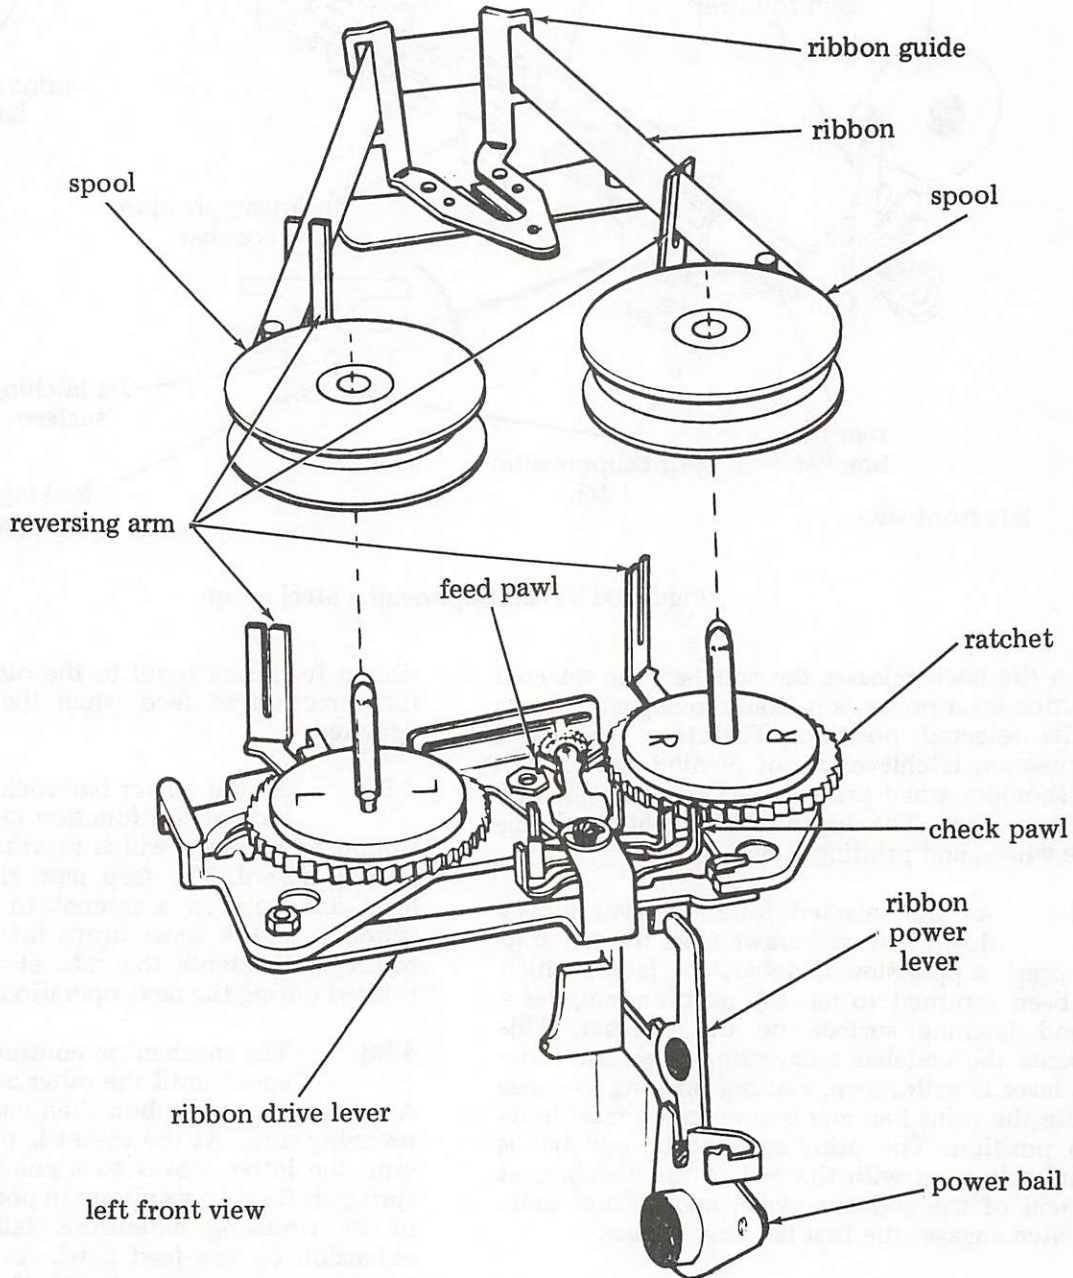

Figure 32 - Ribbon Mechanism
4.86 The ribbon mechanism (Figure 32) supplies the ink for printing. As the typing unit operates, the mechanism feeds the